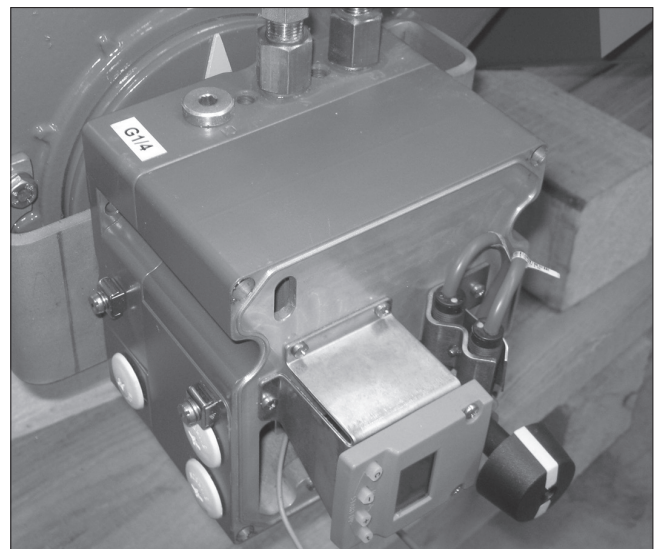

Fig. 13 The markings on the actuator conform to the position of the disc
- Ensure that the jag on the indexing shaft conforms to the position of the disc (see Figure 13).